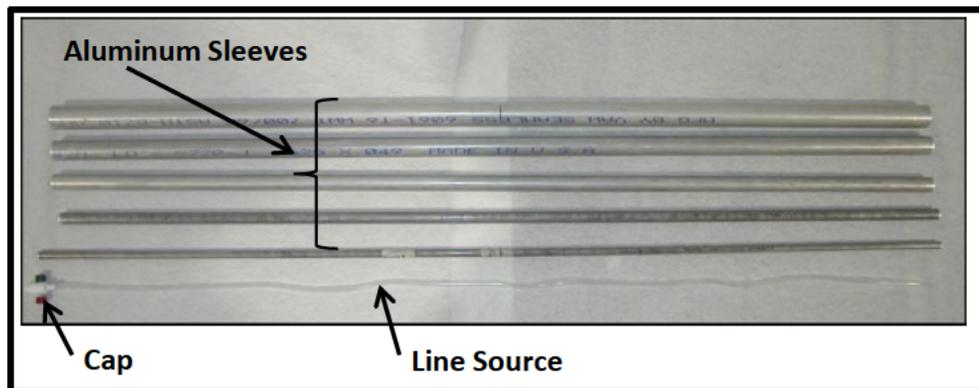

Figure 3.3: Line Source and Aluminum Sleeves.
- Cap or seal the ends of the line. (One end of the line source must be able to fit through the smallest diameter aluminum sleeve, refer to Figure 3.3 . You may use Critoseal to seal one end of the line if the smallest cap is too big to fit into the sleeve.)